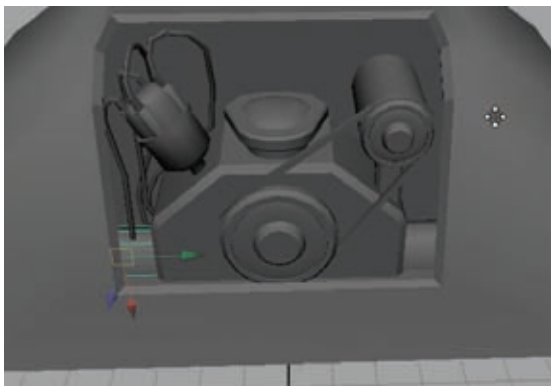

Figure 4.49
12. Continue to model the engine to the level of detail that you prefer. I added a few more basic engine parts simply to identify the engine as an *engine*. You can see how mine turned out in Figure 4.49. These engine parts were all created using simple